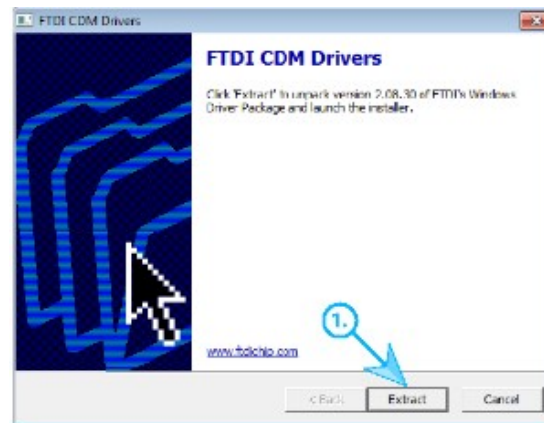

Figure 3.1.3 : Extracting USB drivers.
2. Select "Extract" shown in figure 3.1.3, and the drivers will be installed.